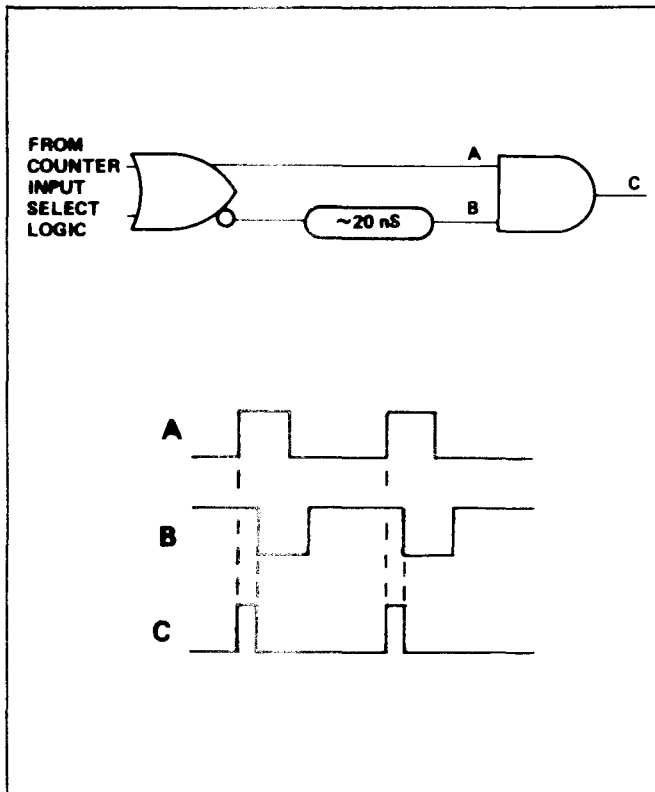

Figure 1.14 - Differentiator
1.4.6.1 The signal selected by the counter input select logic is applied to the differentiator. The differentiator effectively shortens the duration of each pulse to limit the possibility of a signal occurring at the transition of the gate signal. This is accomplished as shown in figure 1.14. The selected input signal A and its delayed complement B are applied to an AND gate. The result is the very short duration pulse C whose width is equal to the propagation delay of the two gates in the delay circuit.